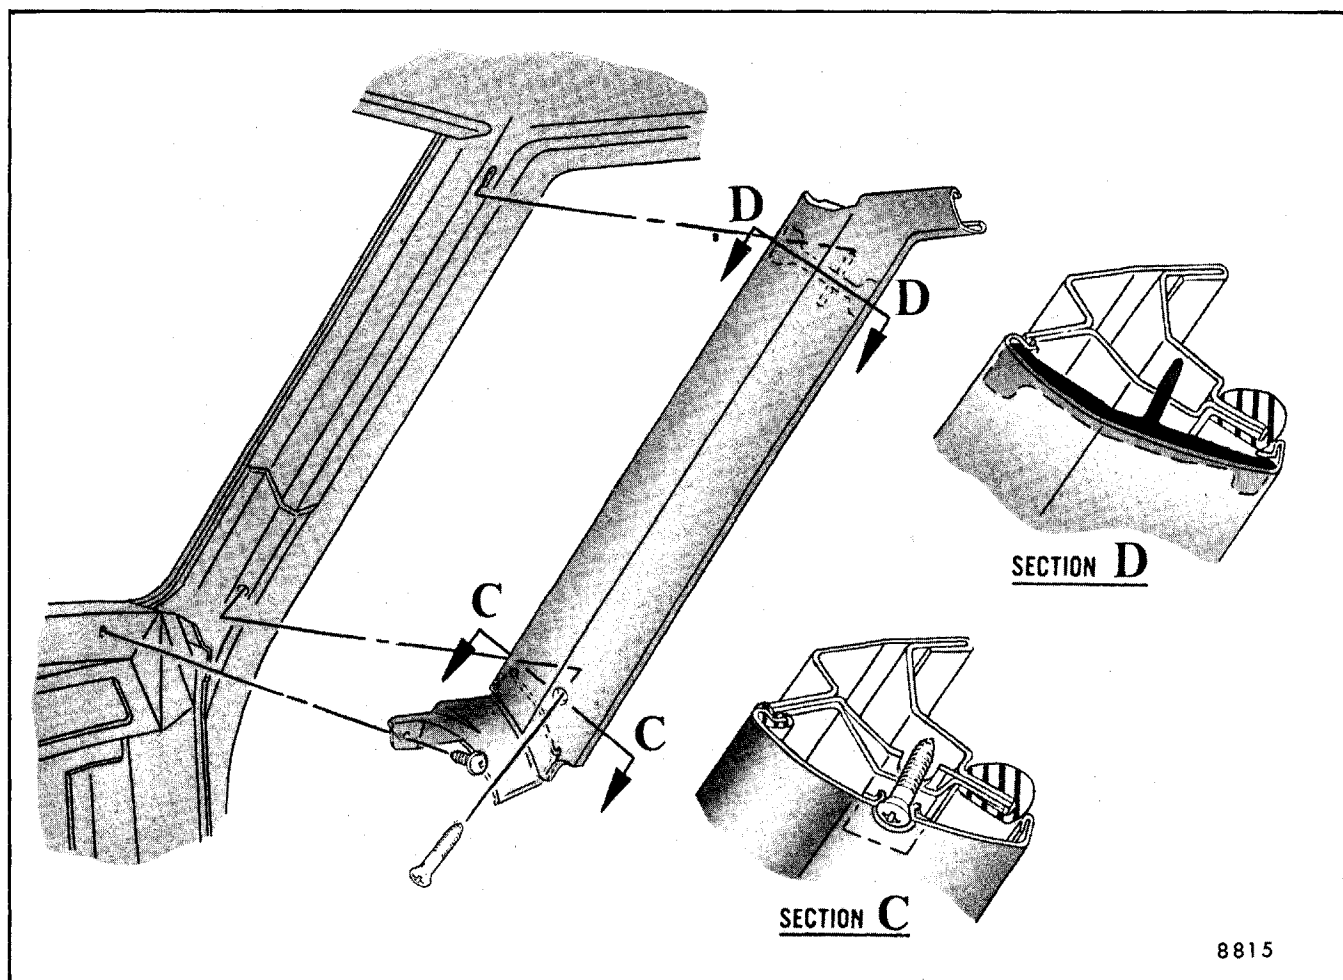

Fig. 8-18-Windshield Side Garnish Molding - K Styles
1. Remove attaching screws at front ends of side roof rail garnish moldings and disengage ends of windshield upper garnish moldings. On K styles, it is necessary to remove the instrument panel cover prior to removing the windshield side garnish lower attaching screw. Refer to chassis service manual for instrument panel cover removal procedure (Fig. 8-18).